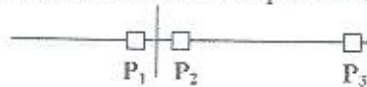

Fig. 1
- 1-3) A three-phase ac switch with configuration in Fig.1 has a three-phase 440-V, 60-Hz input and a three-phase wye connected load. The load power is 20 kW at a power factor of 0.86 lagging. Determine the voltage and current ratings of diodes and thyristors.
- 1-e In the part of the network shown in Fig. 1, the minimum and maximum operating times for each relay are 0.6 and 2.0 cycles, and each circuit breaker has the minimum and maximum operating time of 2.0 and 5.0 cycles. Assume that a safety margin of 3.0 cycles between any primary protection and backup protection is desirable.  $P_2$  is the local backup for  $P_1$ , and  $P_3$  is the remote backup. Draw a timing diagram to indicate the various times at which the associated relays and breakers must operate to provide a coordinated backup coverage for fault F. (5 points)